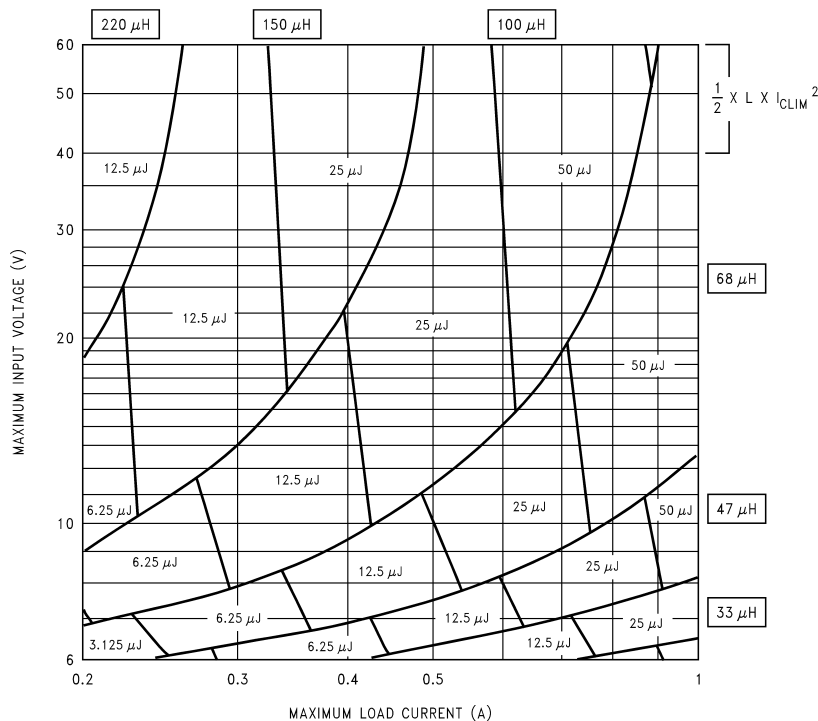
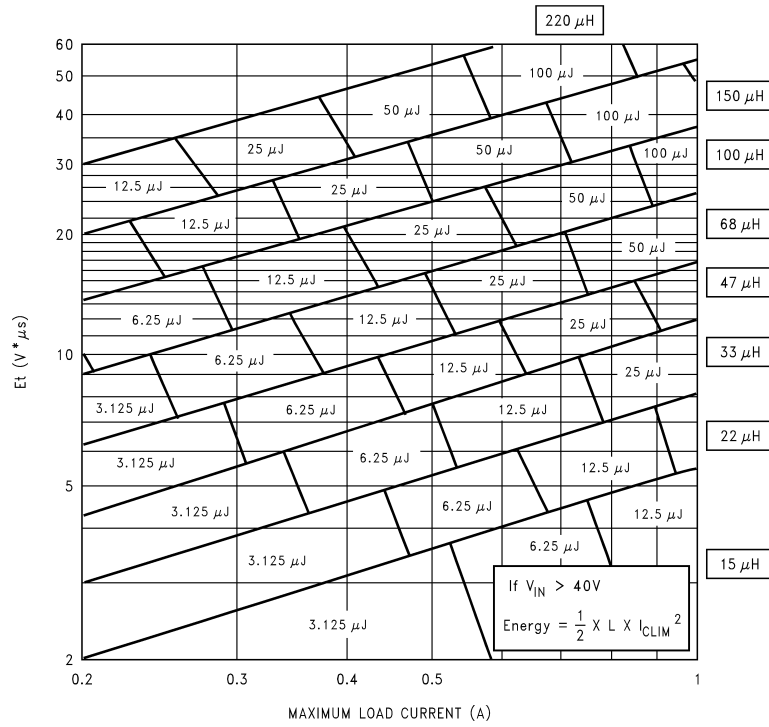

Figure 25. LM2591HV-3.3
Figure 27. LM2591HV-ADJ
Application Note AN-1197 SNVA038 titled "Selecting Inductors for Buck Converters" provides detailed information on this topic. For a quick-start the designer may refer to the nomographs provided in Figure 25 to Figure 27. To widen the choice of the Designer to a more general selection of available inductors, the nomographs provide the required inductance and also the energy in the core expressed in microjoules (μJ), as an alternative to just prescribing custom parts. The following points need to be highlighted:
5. Figure 27 shows the inductor selection curves for the Adjustable version. The y-axis is 'Et', in $\text{V}\mu\text{secs}$. It is the applied volts across the inductor during the ON time of the switch ($V_{\text{IN}} - V_{\text{SAT}} - V_{\text{OUT}}$) multiplied by the time for which the switch is on in μsecs . See Example 3.
1. Since input voltage is less than 40V, a first pass inductor selection is based upon Inductance and rated max load current. We choose an inductor with the Inductance value indicated by the nomograph Figure 27 and a current rating equal to the maximum load. But we first need to calculate Et for the given application. The Duty cycle is
Therefore, looking at Figure 25 we quick-select a 100 μ H/1A inductor (designed for 150 kHz operation) for this application.
2. We should confirm that it is rated to handle 100 μ J (see Figure 27) by the procedure shown in AN-1197 SNVA038 and that the losses are acceptable. (If the DC Input voltage had been greater than 40V we would need to consider e_{CLIM} as in Example 2 above).